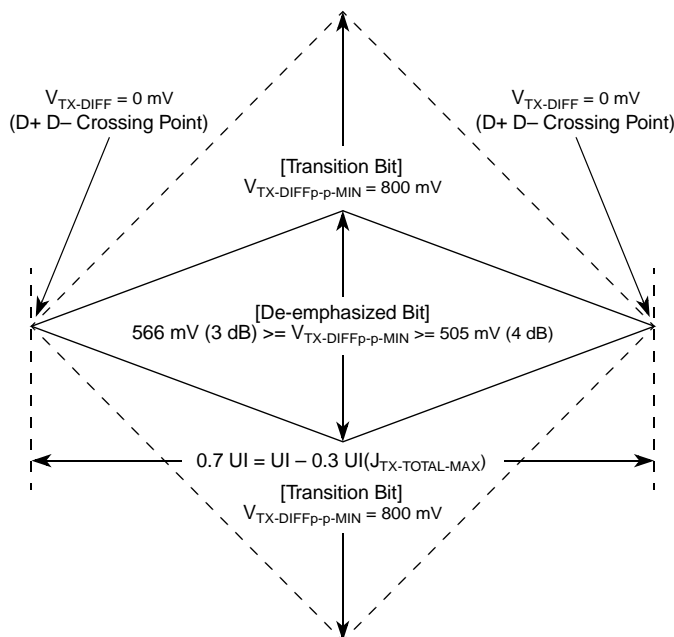
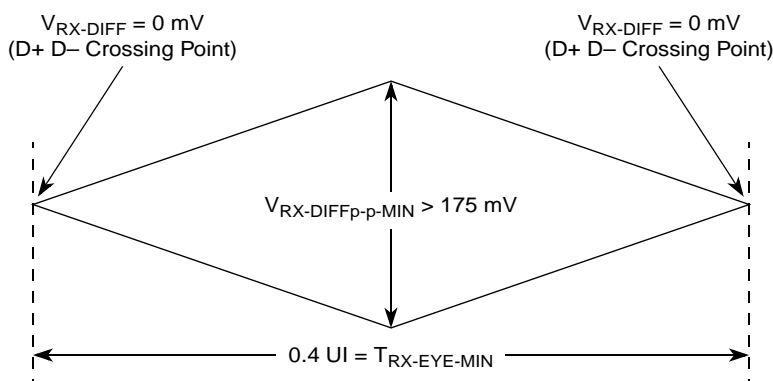
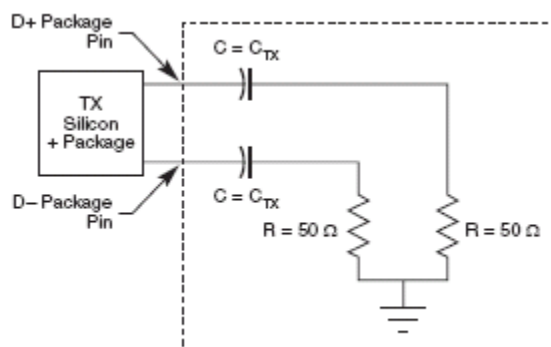

Figure 49. Minimum Transmitter Timing and Voltage Output Compliance Specifications
Figure 50. Minimum Receiver Eye Timing and Voltage Compliance Specification
Figure 51. Compliance Test/Measurement Load
2. Specified at the measurement point into a timing and voltage compliance test load as shown in Figure 51 and measured over any 250 consecutive TX UIs. (Also refer to the transmitter compliance eye diagram shown in Figure 49.)
4. The transmitter input impedance shall result in a differential return loss greater than or equal to 12 dB and a common mode return loss greater than or equal to 6 dB over a frequency range of 50 MHz to 1.25 GHz. This input impedance requirement applies to all valid input levels. The reference impedance for return loss measurements is 50 Ω to ground for both the D+ and D- line (that is, as measured by a vector network analyzer with 50- Ω probes, see Figure 51). Note that the series capacitors, C_{TX} , is optional for the return loss measurement.
5. Measured between 20%–80% at transmitter package pins into a test load as shown in Figure 51 for both V_{TX-D+} and V_{TX-D-} .
The TX eye diagram in Figure 49 is specified using the passive compliance/test measurement load (see Figure 51) in place of any real PCI Express interconnect + RX component. There are two eye diagrams that must be met for the transmitter. Both diagrams must be aligned in time using the jitter median to locate the center of the eye diagram. The different eye diagrams differ in voltage depending on whether it is a transition bit or a de-emphasized bit. The exact reduced voltage level of the de-emphasized bit is always relative to the transition bit.
2. Specified at the measurement point and measured over any 250 consecutive UIs. The test load in Figure 51 should be used as the RX device when taking measurements (also refer to the receiver compliance eye diagram shown in Figure 50). If the clocks to the RX and TX are not derived from the same reference clock, the TX UI recovered from 3500 consecutive UI must be used as a reference for the eye diagram.
4. The receiver input impedance shall result in a differential return loss greater than or equal to 15 dB with the D+ line biased to 300 mV and the D- line biased to -300 mV and a common mode return loss greater than or equal to 6 dB (no bias required) over a frequency range of 50 MHz to 1.25 GHz. This input impedance requirement applies to all valid input levels. The reference impedance for return loss measurements for is 50 Ω to ground for both the D+ and D- line (that is, as measured by a vector network analyzer with 50- Ω probes, see Figure 51). Note that the series capacitors, C_{TX} , is optional for the return loss measurement.
The RX eye diagram in Figure 50 is specified using the passive compliance/test measurement load (see Figure 51) in place of any real PCI Express RX component. In general, the minimum receiver eye diagram measured with the compliance/test measurement load (see Figure 51) is larger than the minimum receiver eye diagram measured over a range of systems at the input receiver of any real PCI Express component. The degraded eye diagram at the input Receiver is due to traces internal to the package as well as silicon parasitic characteristics which cause the real PCI Express component to vary in impedance from the compliance/test measurement load. The input receiver eye diagram is implementation specific and is not specified. RX component designer should provide additional margin to adequately compensate for the degraded minimum Receiver eye diagram (shown in Figure 50) expected at the input receiver based on an adequate combination of system simulations and the return loss measured looking into the RX package and silicon. The RX eye diagram must be aligned in time using the jitter median to locate the center of the eye diagram.
The reference impedance for return loss measurements is 50 Ω to ground for both the D+ and D- line (that is, as measured by a Vector Network Analyzer with 50 Ω probes—see Figure 51). Note that the series capacitors, $C_{PEACCTX}$, are optional for the return loss measurement.
The AC timing and voltage parameters must be verified at the measurement point, as specified within 0.2 inches of the package pins, into a test/measurement load shown in Figure 51.